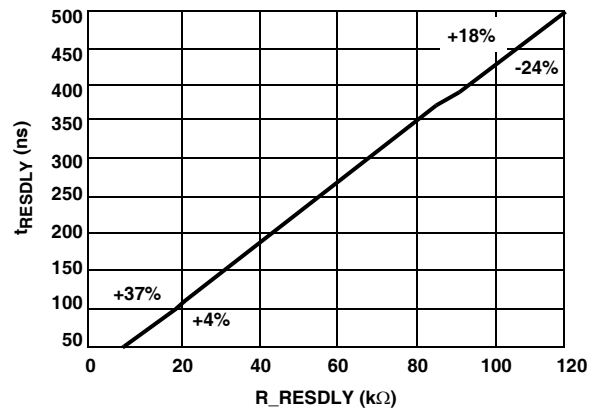

FIGURE 7. R\_RESDLY vs RESDELAY
- Figure 7 illustrates the relationship of the value of the resistor (R\_RESDLY) and the resonant delay (tRESDELAY). The percentages in the figure are the tolerances at the two end points of the curve.